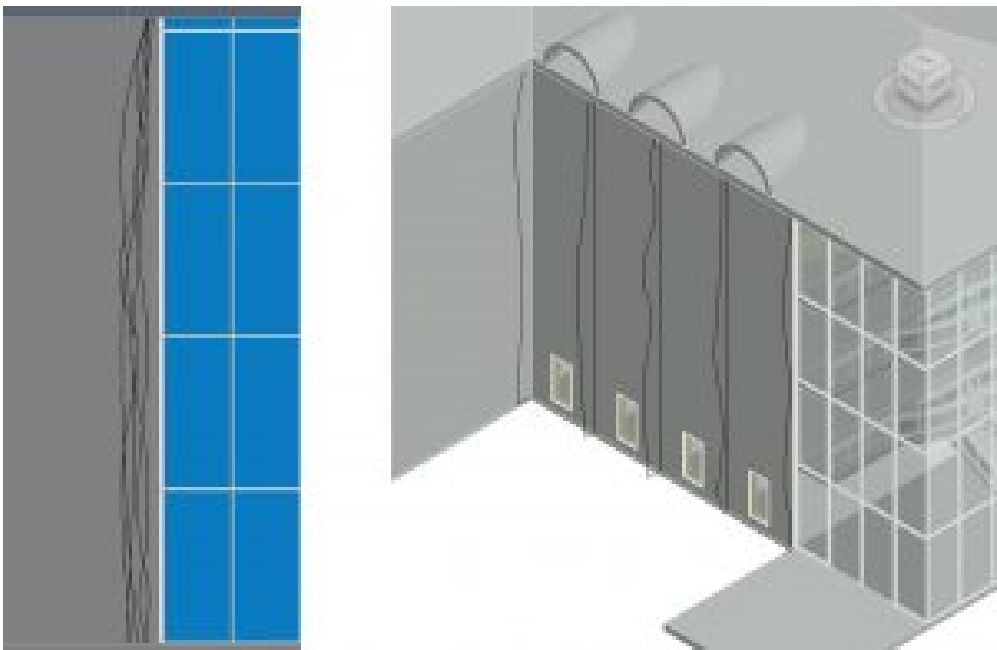

Figure 7.17 All reference planes are shown in the East view and 3D view
- Continue steps 7 through 10 to draw 4 more profiles on reference planes 2, 3, 4 and 5 as shown in Figure 7.17